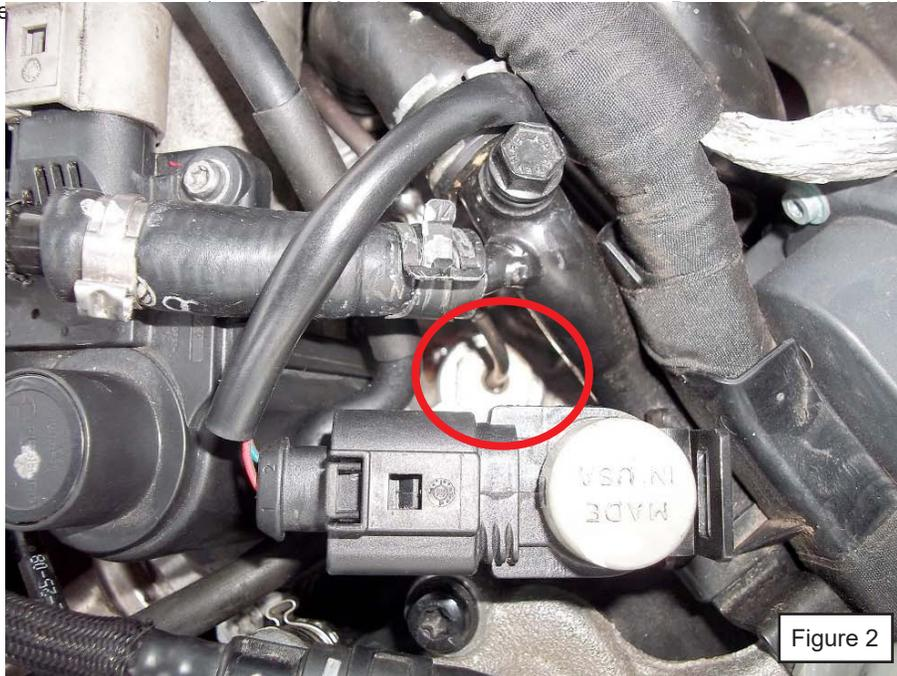

Figure 2
13. Repeat step 10-12 allowing another 1/4 of the fluid to be consumed. Note: During this step cycle the EGR cooler bypass valve (see figure 2) several times using the scan tool. This will allow cleaning of the EGR cooler bypass port.